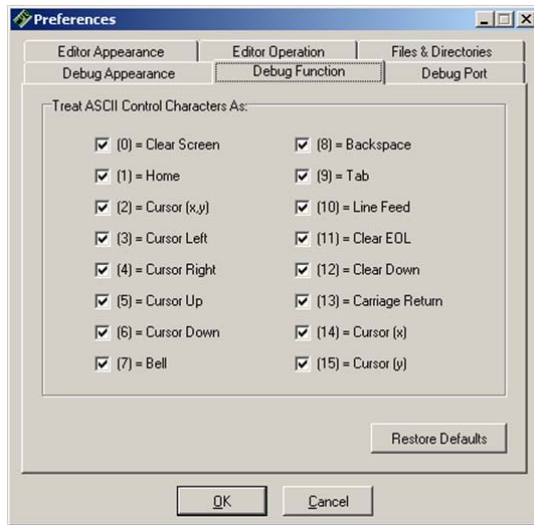

Figure 6-3
Figure 6-3 shows ASCII values the Debug Terminal uses as control characters for operations like Clear Screen, Home, Backspace, Tab, Carriage return and others.
All of the control characters listed in Figure 6-3 have symbol names in the PBASIC language. For example, instead of `DEBUG 0` for Clear Screen, you can use `DEBUG CLS`. In place of `DEBUG 13` for Carriage Return, you can use `DEBUG CR`. The `DEBUG` command documentation in the BASIC Stamp Editor Help's PBASIC Language Reference has a complete list of PBASIC control character symbol names, descriptions of their functions, and the values they represent.
- ✓ Scroll down to the last table. It lists the names and ASCII values of the functions in Figure 6-3 along with PBASIC Symbol names you can use as `DEBUG` command arguments, like `CLS`, `CR`, `HOME`, etc.